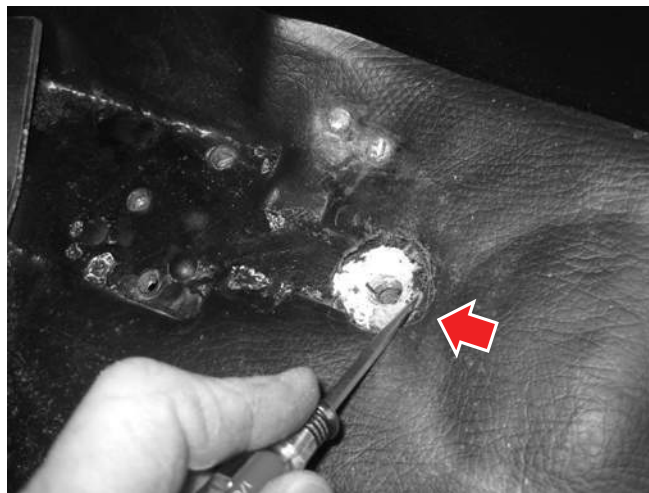

Figure 4-4
- Scrape off any insulation glued to the sheet metal of the cab floor (see Figure 4-4).